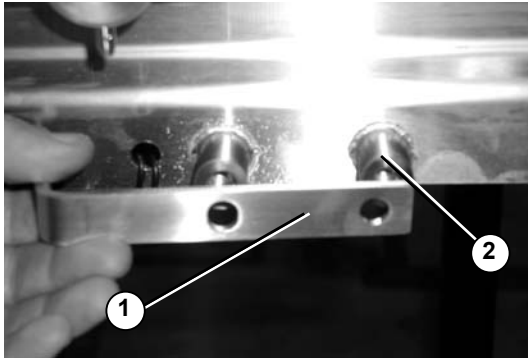

Figure 16
1. Bolt limiter support plates (Figure 16, item 1) to conveyor frame stand off posts (Figure 16, item 2).